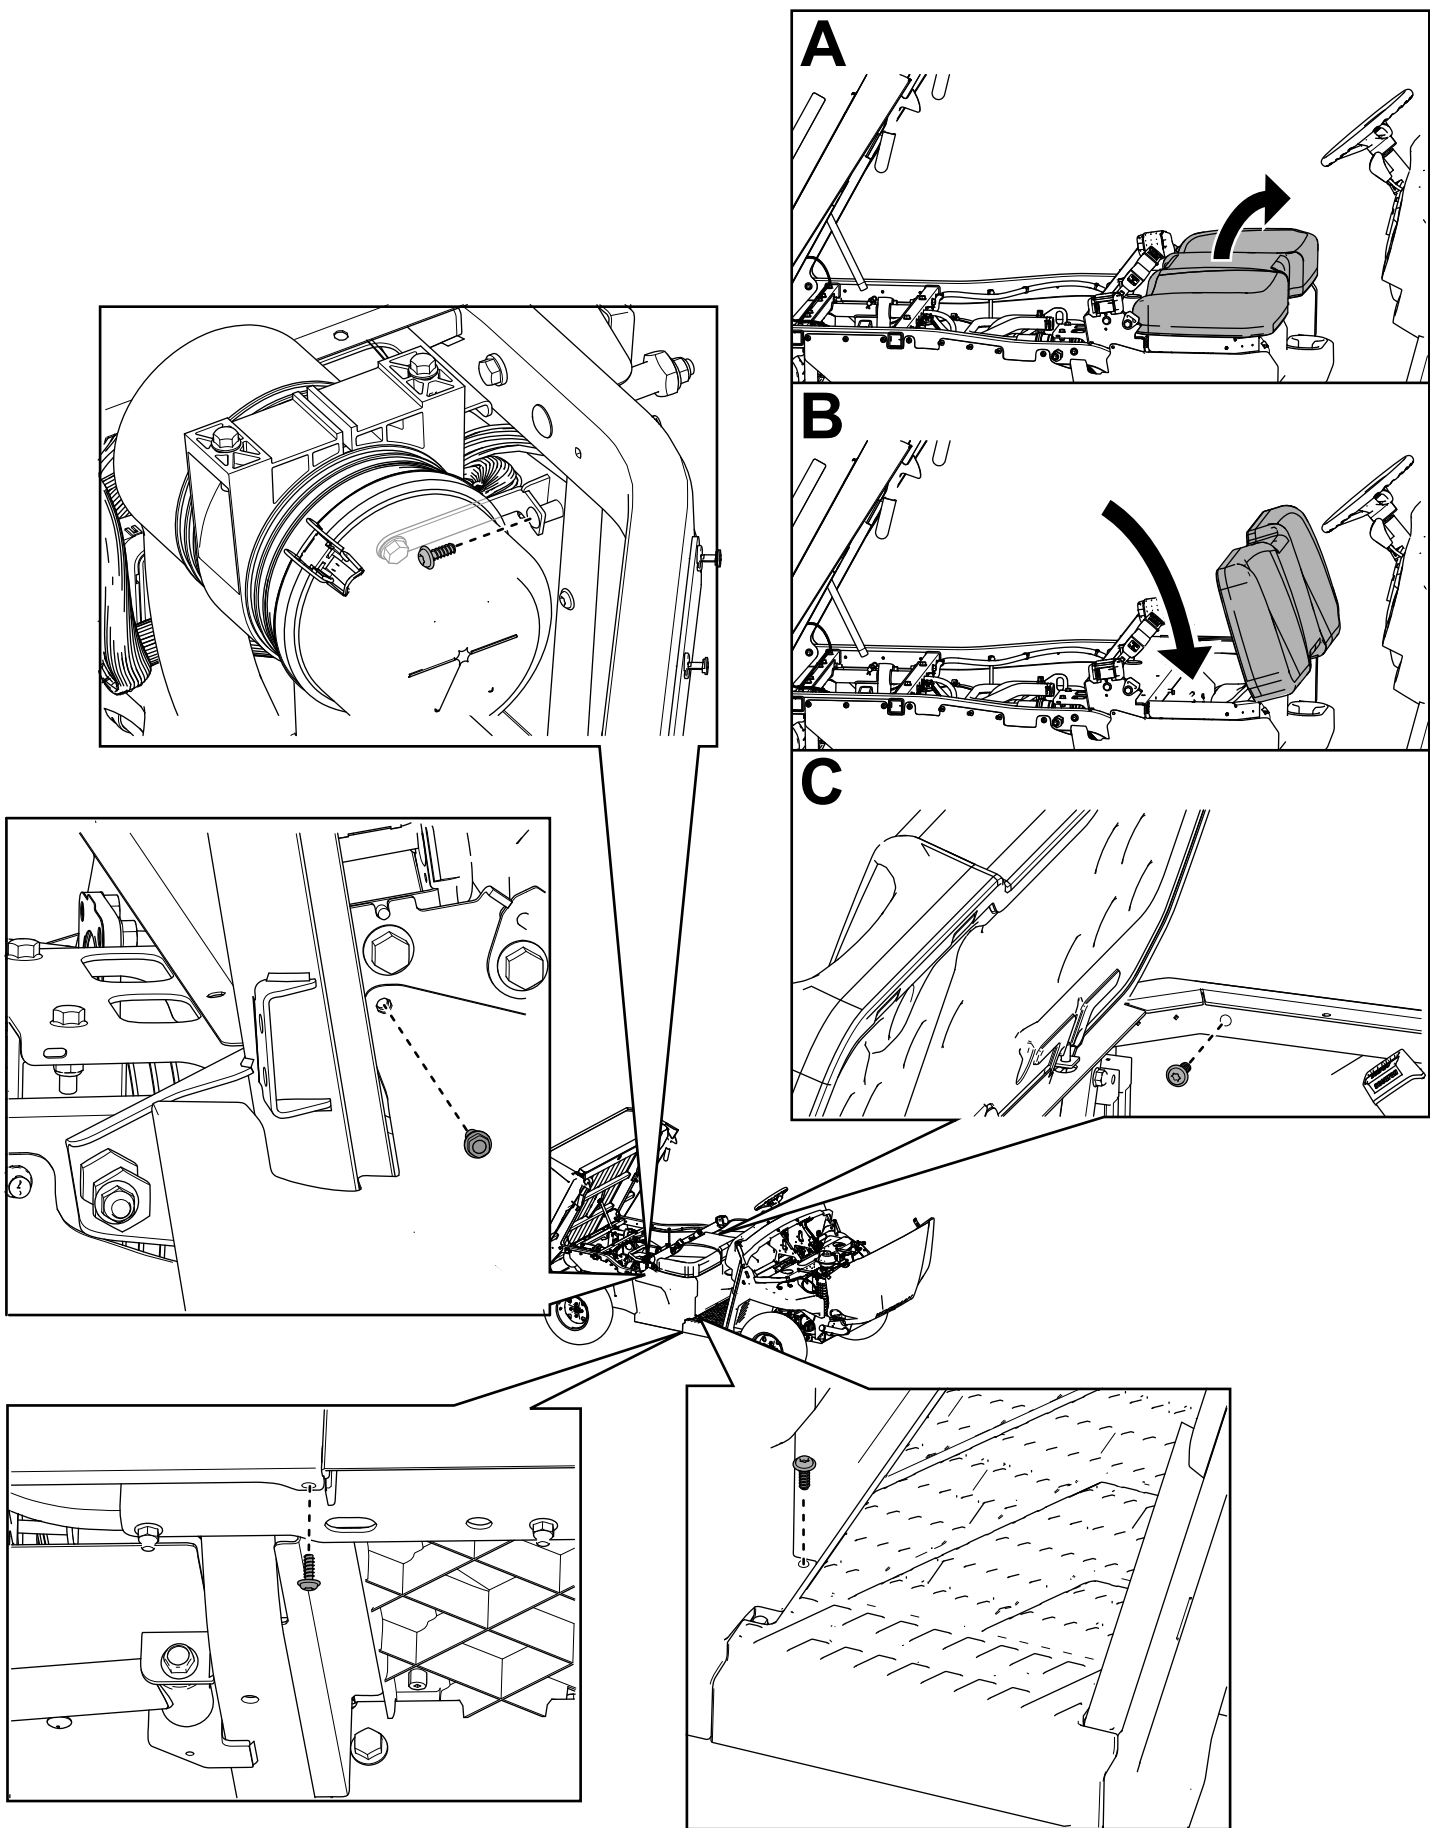

Figure 34
22. Secure the right and left seat-base panels using the previously removed hex-washer head bolts (1/4 x 3/4 inch) as shown in Figure 34.